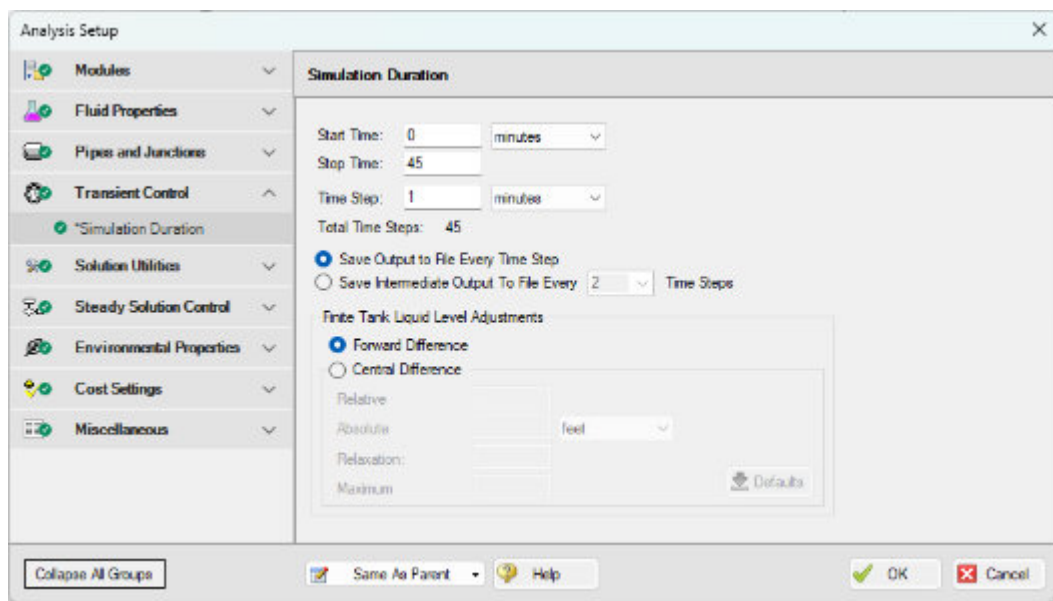

Figure 5.13 The Transient Control group is used to specify transient run times and time step sizes
- **Set the Start Time** to 0 minutes and the Stop Time as 45 minutes, with a time step of 1 minute. The output will be saved to the output file for every time step. The Transient Control window should appear as shown in Figure 5.13.